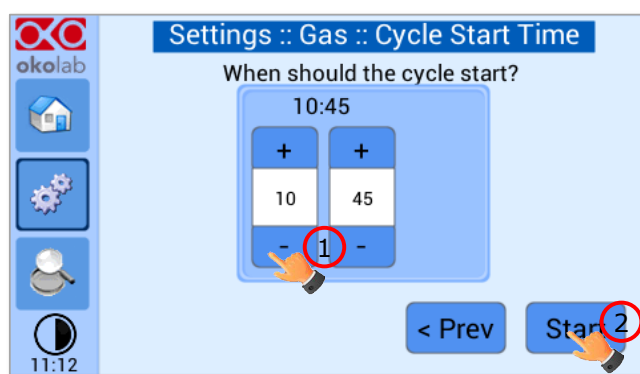

Figure 42. Cycle Start.
5. Schedule the time for the gas cycle to start (see Figure 42).